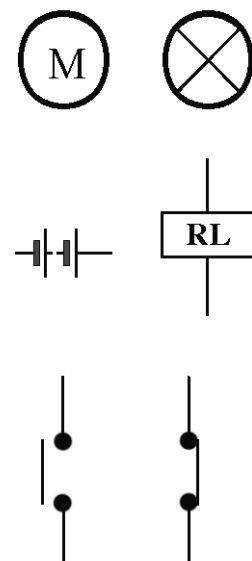

Figure 10
*A range of components that can be used are shown in **Figure 10**.*